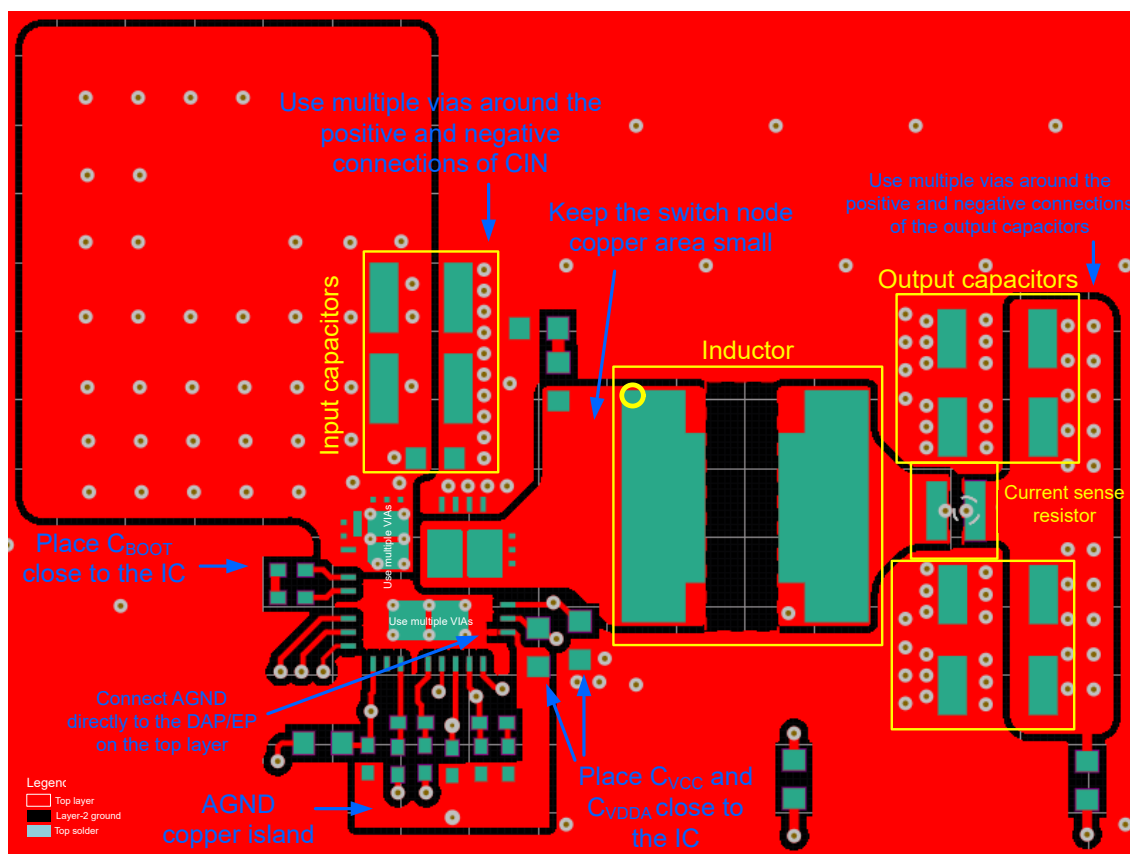

Figure 9-15. PCB Top Layer
The following list summarizes the essential guidelines for PCB layout and component placement to optimize DC/DC regulator performance, including thermals and EMI signature. Figure 9-15 shows a recommended layout of the device with optimized placement and routing of the power-stage and small-signal components.
- Use low-ESR ceramic capacitors with X7R or X7S dielectric from VIN to PGND. Place an 0402 or 0603 capacitor close to VIN for high-frequency bypass as shown in Figure 9-15. Use additional 1206 or 1210 capacitors for bulk capacitance.